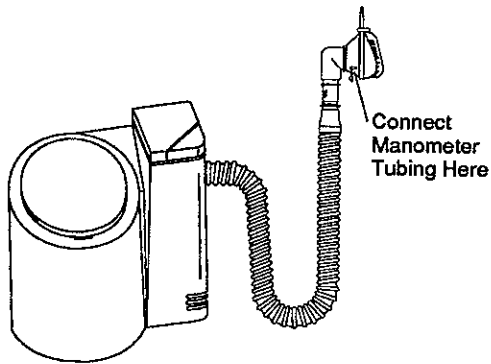

Figure 1
c. **Option 1** - Connect manometer tubing to the outlet port on the mask (Figure 1).